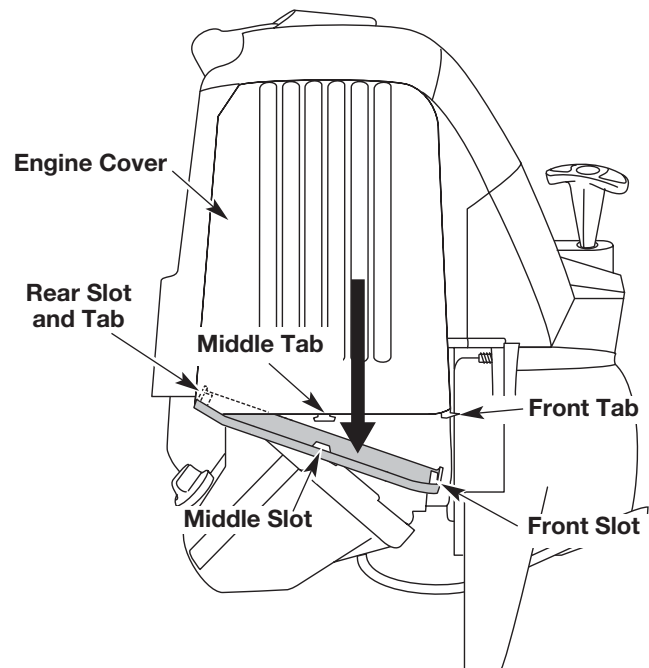

Fig. 50
1. Remove the muffler cover by pressing down on it, separating it from the engine cover. Using a flat blade screwdriver, disengage the middle and front tabs and slots first. The cover will hinge off from the rear tab (Fig. 50).
13. Reinstall the muffler cover. Slip the rear tab on the muffler cover into the engine cover rear slot. Then slide the remaining slots into the tabs until they snap into place (Fig. 50).